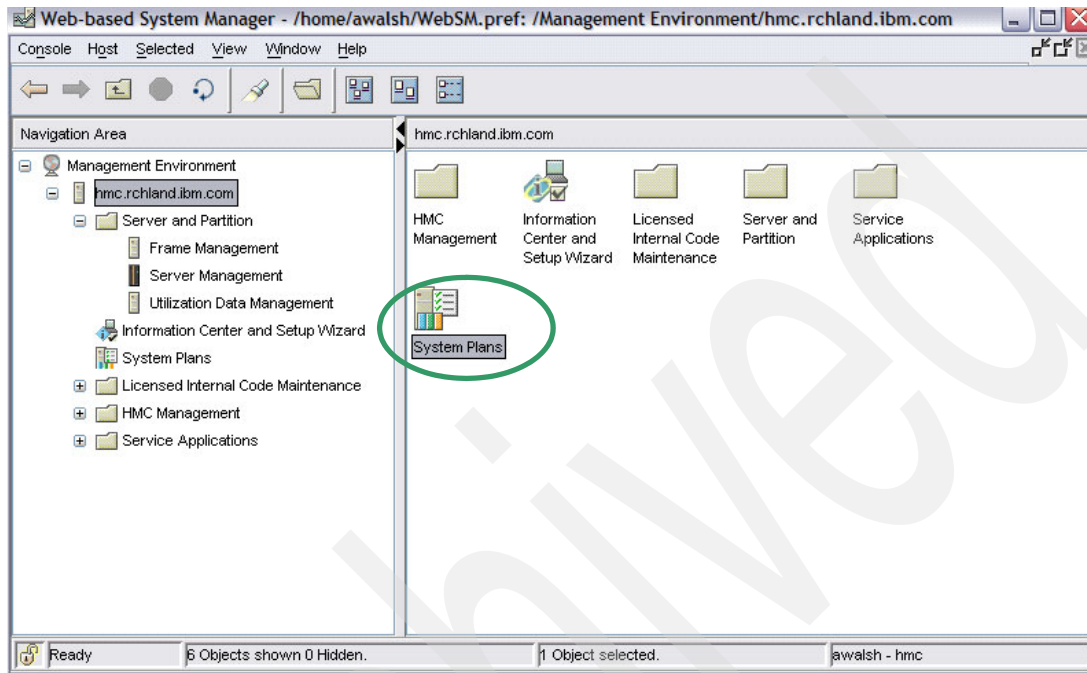

Figure 3-1 HMC main tasks panel
*Management (WebSM)* client connecting to the HMC. Either single-click the **System Plans** task in the navigation area or double-click the large icon to the right (Figure 3-1). This will display the management tasks window.